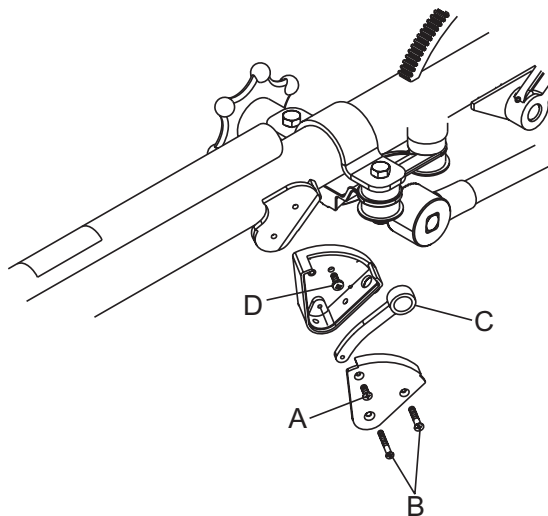

Figure 2. Removal of Safety Stop Switch
2. Remove safety stop switch (Figure 2) by removing the two coarse threaded countersunk phillips head screws (**B**) and one fine threaded countersunk phillips-head screw (**A**) on the cover. Note the orientation of each screw as they **MUST** be re-installed in the same positions.